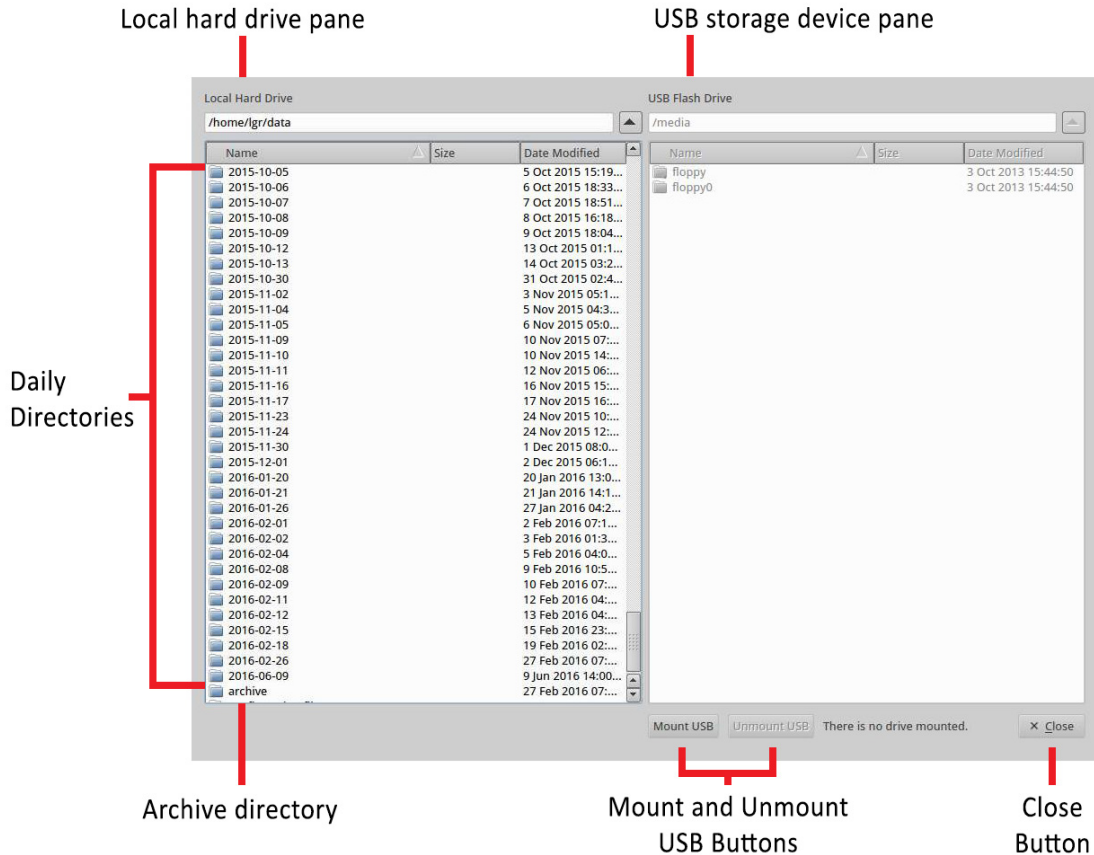
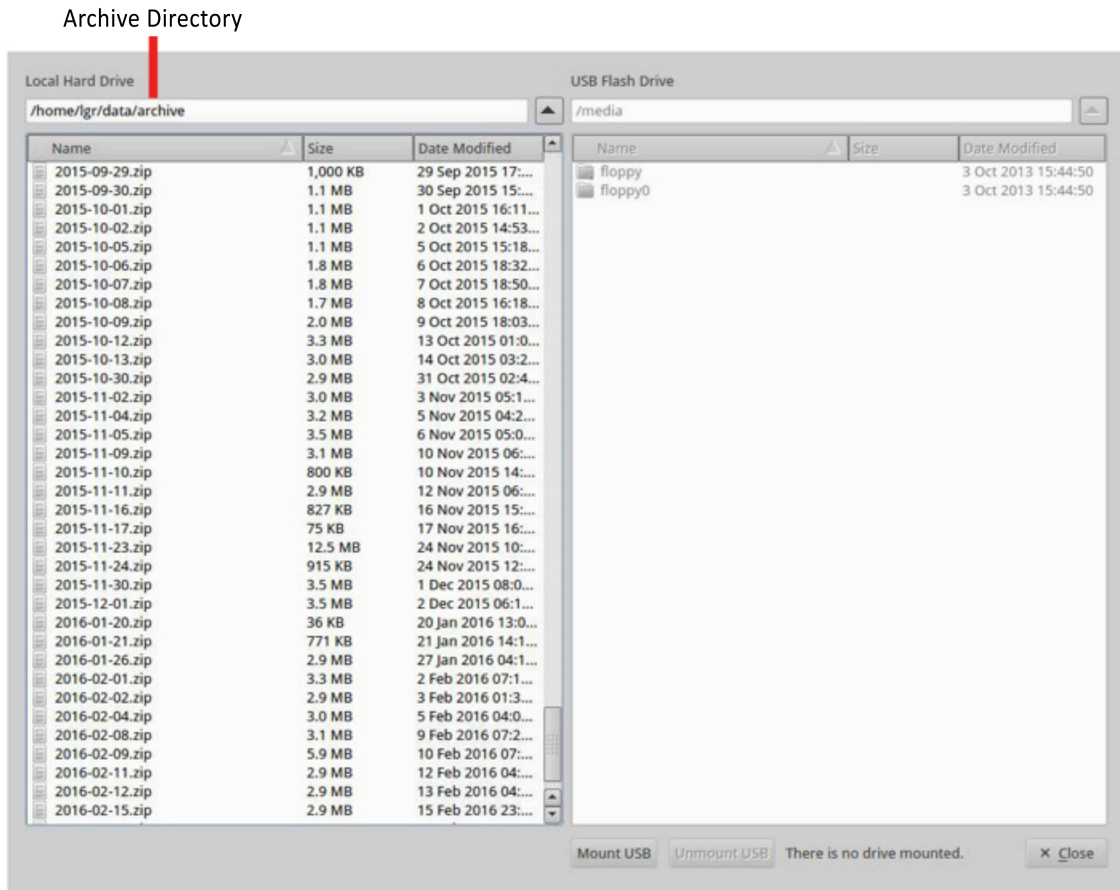

Figure 24: File Transfer Menu: Local Hard Drive (left pane) and USB Flash Drive (right pane)
Figure 26: Archive Directory
1. Click the **Files** button on the *User Interface Control Bar* (Figure 16) to access the *File Transfer Menu*. (Figure 24)
3. Click on the **Mount USB** button. (Figure 24)
The local hard drive (Figure 24) creates a daily folder containing new data files for each day that the analyzer operates.
The local hard drive (Figure 24) creates an archived folder containing zipped files organized by date. (Figure 26)
To access the archived files, double-click the **Archive** folder. (Figure 24)
Examples of files in the archive directory are shown in Figure 26.